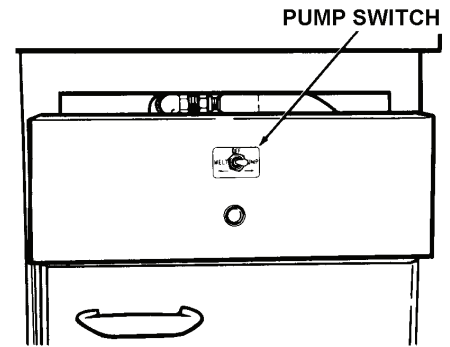

FIGURE 8. FILTER CONTROL PANEL
- On the filter panel, turn the pump switch to the "Pump" or "ON" position. Refer to Figure 8.